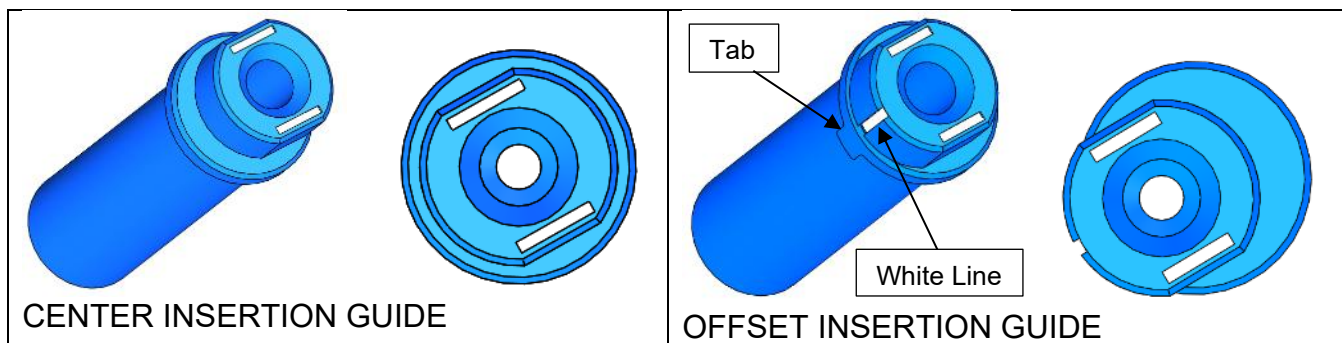

Figure 146: Center Insertion Guide (Left) and Offset Insertion Guide (Right)
1. Once the trajectory and desired channel position is confirmed, use either CENTER Insertion Guide or the OFFSET Insertion Guide to prepare for device insertion. The insertion guides are blue with "racetrack" features on the top. **See Figure 146.**
2. Use the CENTER Insertion Guide if the center channel was selected. Use the OFFSET Insertion Guide if one of the outer channels was selected. The Offset Insertion Guide has a White Line and a Tab on its side, and the hole is offset from the center. **See Figure 146.**